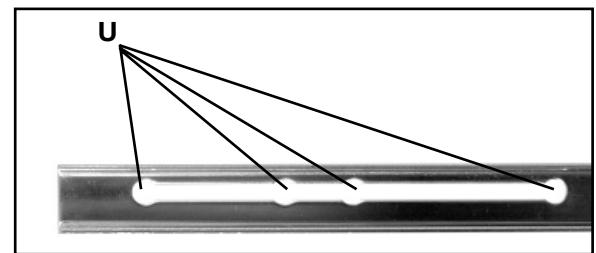
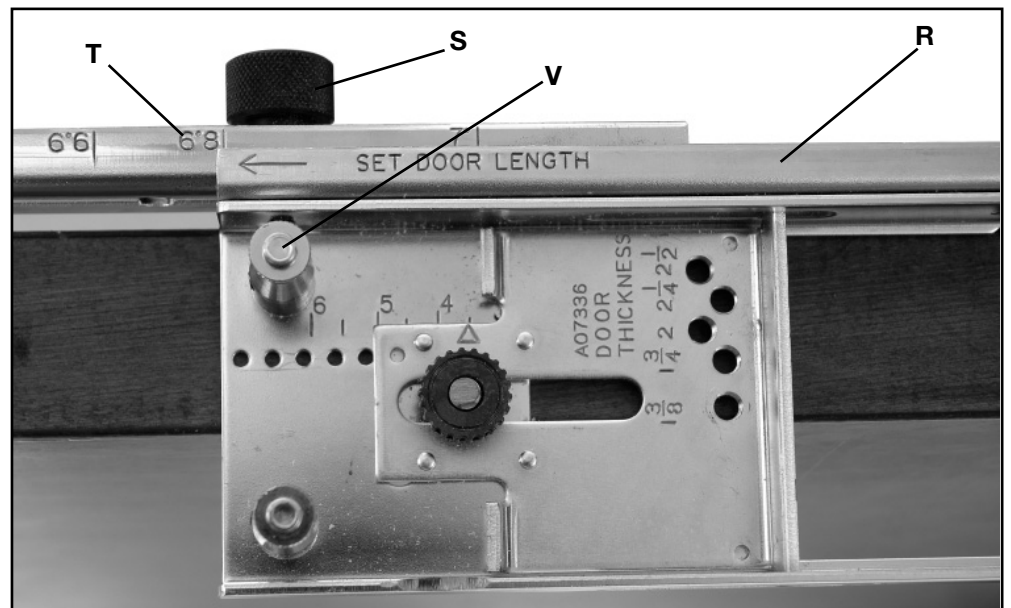

Fig. 6
Fig. 7
- Line up the center template section (R) Fig. 7 so the end of the template lines up with the 6'8" mark (T) on the rail that was just installed. Attach the template at this location using a rail adjustment thumb screw (S).
NOTE: Recesses (U) Fig. 6 in the rails are provided for 6', 6'6", 6'8" and 7' doors. Tighten screw (S) Fig. 7, being sure the plunger within the screw locates in the recess to help prevent movement.